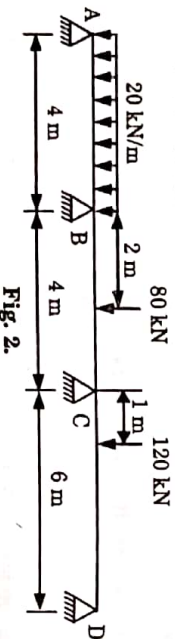

Fig. 2.
b. Draw the bending moment diagram for the continuous beam shown in Fig. 2 using moment distribution method. EI is constant.